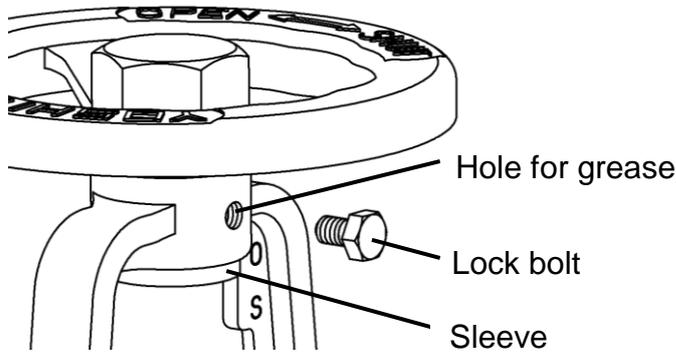

Figure 1
- (1) When using the product with its valve fully open, turn the handle counterclockwise by 45 degrees from the fully open position to prevent the valve from being stuck.
- (2) Be sure to open/close the valve by applying torque within the limit specified in "the valve User's Guide" published by the Japan Valve Manufacturers Association. Do not apply torque more than specified.
- (3) Do not try to turn the handle beyond its fully open/closed positions. Otherwise the valve may be damaged.
- (4) Tighten the lock bolt if it is necessary to fix the handle (See Figure 1).
- (5) When applying grease to the sleeve, remove the lock bolt and put grease into screw hole (See Figure 1).